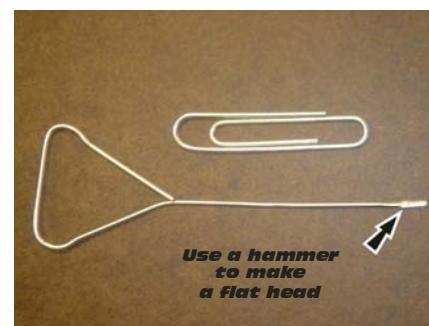

Fig. 4
5. **Remove #5 wire (Brown/Black Stripe) by inserting a very small flat head screwdriver into the pin hole and gently pry down to unlock the wire and pull the wire out from the rear of the plug. (Note: If you do not have a small flat head screwdriver, you can make one using a regular paper clip. See Fig. 4)**